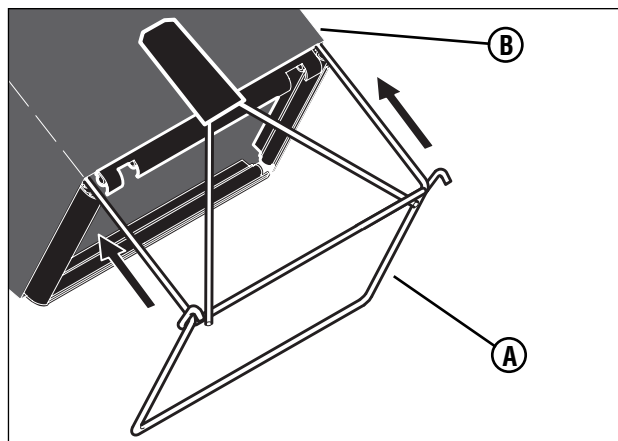

Figure 5: Installing the frame assembly
1. Slide the frame assembly **(A, Figure 5)** into the grass bag **(B)**.